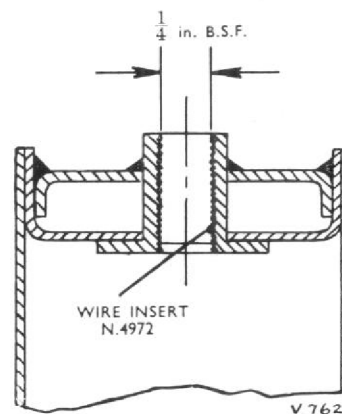

Fig. 10. Section A-A pre-mod. 187, showing wire insert fitted to boss.
3. Remove any burrs from the edge of the hole, blow out the hole with compressed air, and using the appropriate inserting tool, screw in wire insert, Part No. N.4972, Fig. 10. Break off, and remove, the notched tang of the insert.